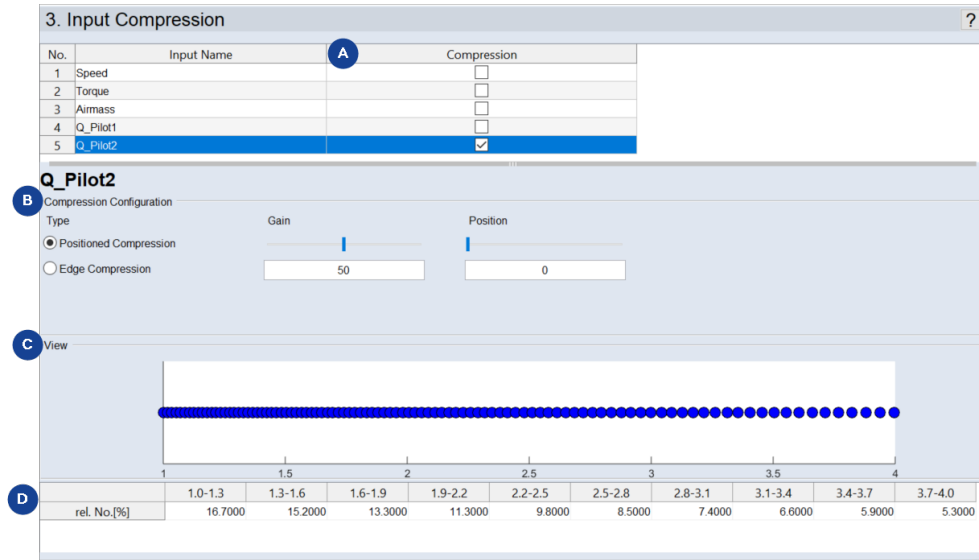

Fig. 7-4: ASCMO-DYNAMIC ExpeDes Step 3: Input compression (type "Positioned Compression")
1. In the **Compression** column, activate the checkbox for each input you want to compress (see **A** in Fig. 7-4: above).
In the **Compression Configuration** area (**B** in Fig. 7-4: above), you can define the type and the orientation of compression. There are two types of compression.
In the **View** area (**C** and **D** in Fig. 7-4: above), the position of the measurement points and, therefore, the measure of the selected compression is graphically displayed. Underneath it, the number of measurements in the respective interval resulting from the compression is specified under **rel. Size in %**.